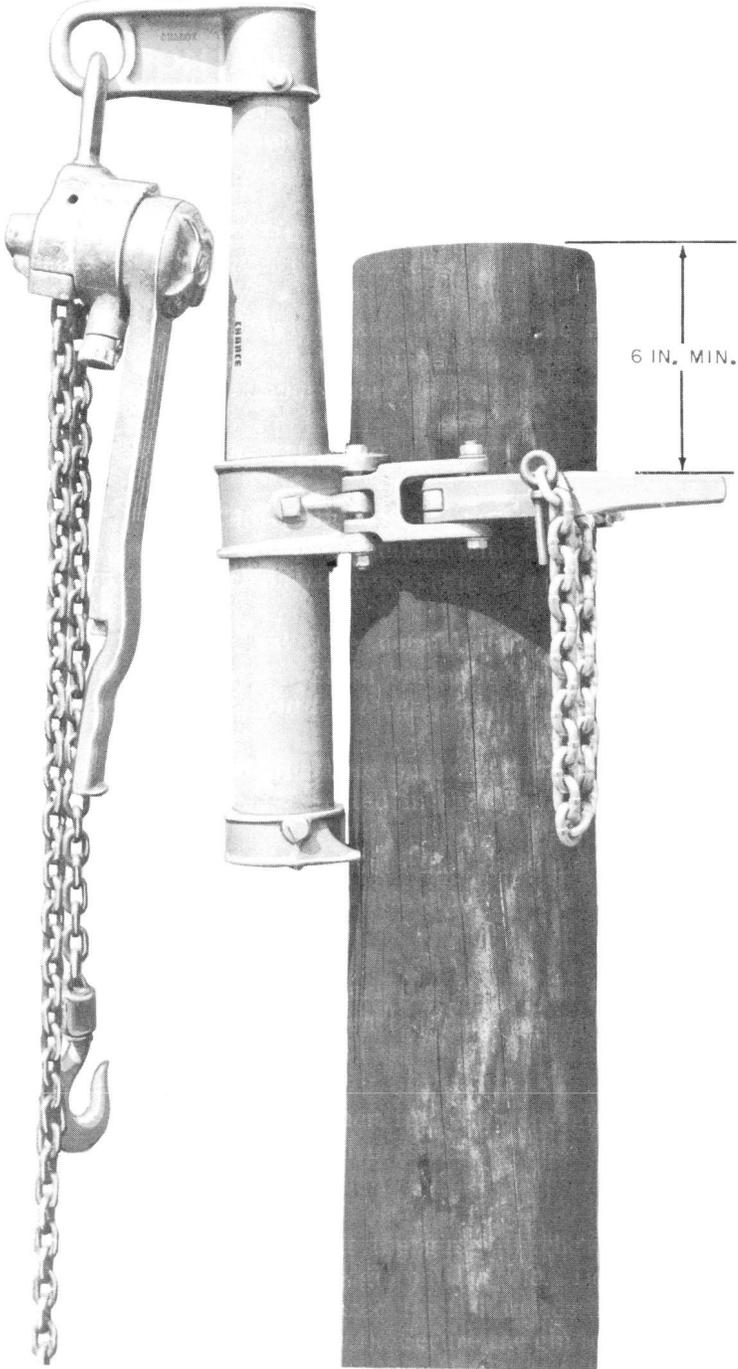

Fig. 5—Chain Hoist Placed in Eye of Gin
4.03 When lifting cable or other attachments, use a chain hoist or wire rope snatch block placed in the eye of the gin (Fig. 5 and 6).